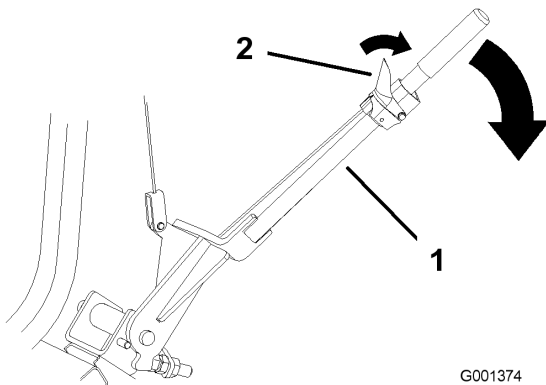

Figure 31
2. Reach back, squeeze and release the latch lever against the bagger lever (Figure 31). This will open the latch that secures the bagger door.
3. Pull down on the bagger arm to allow the grass to fall out of the bagger (Figure 31).
4. Return the bagger arm to upright position in one quick motion. Make sure the bagger door fully engages into the latch (Figure 31).